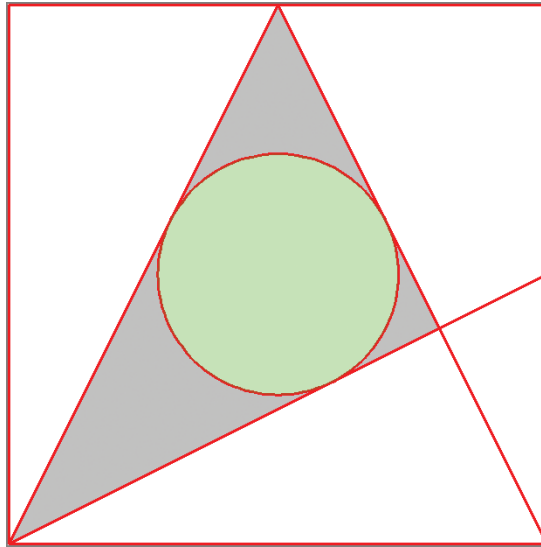

FIGURE 11.12 Measured area shown in green
8. The area within the circle turns green to give you a visual indication of which area and circumference are measured. Figure 11.12 shows the circle's area of π and circumference of 2π . Press Esc and the MEASUREGEOM command ends.